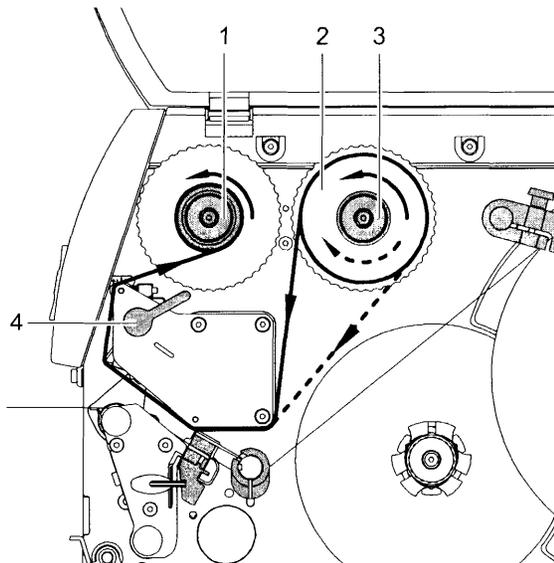

Fig. 12: Feed path of the transfer ribbon
2. Turn lever (4) counterclockwise to lift the printhead.
3. Slide transfer ribbon roll (2) onto the ribbon supply hub (3) until it stops and so that the color coating of the ribbon faces downward when being unwound. No rotation direction is specified for the ribbon supply hub (3).
4. Hold transfer ribbon roll (2) firmly and turn knob on ribbon supply hub (3) counterclockwise until the transfer ribbon roll is secured.
5. Slide suitable transfer ribbon core onto the transfer ribbon take-up hub (1) and secure it in the same way.
6. Guide transfer ribbon through the print unit as shown in Fig. 12.
7. Secure starting end of transfer ribbon to the transfer ribbon core (1) with adhesive tape. Ensure counterclockwise rotation direction of the transfer ribbon take-up hub here.
8. Turn transfer ribbon take-up hub (1) counterclockwise to smooth out the feed path of the transfer ribbon.
9. Turn lever (4) clockwise to lock the print-head.
1. Turn lever (4, Fig. 12) counterclockwise to lift the printhead.